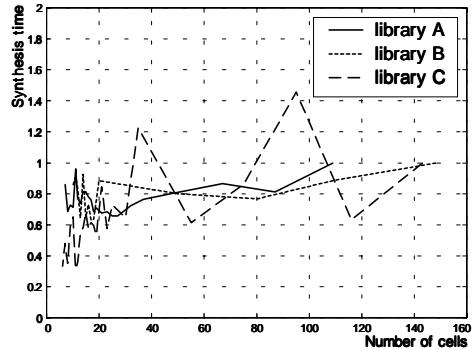

Fig. 5 Average of relative synthesis time versus number of cells.
In addition to delay, area and power, the average time to synthesize each benchmark is also plotted in Fig. 5 (the synthesis time is calculated in a similar fashion using equation (3)).